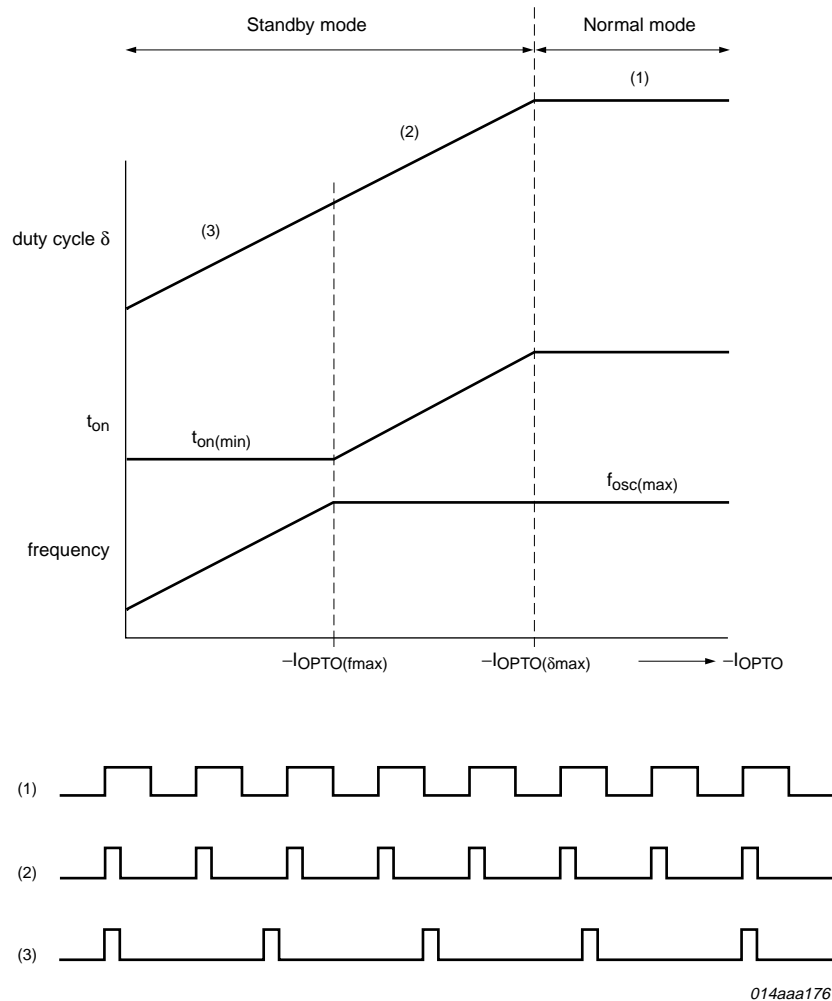

Fig 9. Duty cycle regulation via the I_{OPTO} output current
In Section 8.4 and Section 8.5 it has already been explained that I_{OPTO} regulates both the oscillator frequency and the on-time. This section gives an overview of these regulations. Figure 9 shows both regulations.
When the PSU is in Normal mode I_{OPTO} is in range (1) (Figure 9). This range is characterized by the parameter $I_{OPTO(\delta_{max})}$. The primary controller is in range (1) (Figure 9) when $-I_{OPTO} > -I_{OPTO(\delta_{max})}$.
In range (1) in Figure 9 the frequency is determined by the current I_{IREF} (see Section 8.4). The duty cycle, and therefore the on-time that goes with the duty cycle, is additionally determined by V_{LVIN} that reflects the input voltage (see Section 8.5).
To optimize the efficiency, the duty cycle of the primary controller is reduced when the PSU enters Standby mode. In Standby mode the duty cycle is regulated via the current I_{OPTO} . The duty cycle can be reduced by lowering the current I_{OPTO} . Starting from the high duty cycle in Normal mode the on-time is reduced first. This is shown in range (2) (Figure 9). In this range the on-time can be reduced to a minimum level, $t_{on(min)}$. When the duty cycle is reduced further the frequency will be decreased, while the on-time stays at its minimum level. The transition between ranges (2) and (3) (Figure 9) is $2I_{REF}$. When $-I_{OPTO} < -2I_{REF}$ the primary controller operates in range (3) (Figure 9). Here the on-time is at the minimum level and the duty cycle is regulated via the frequency.